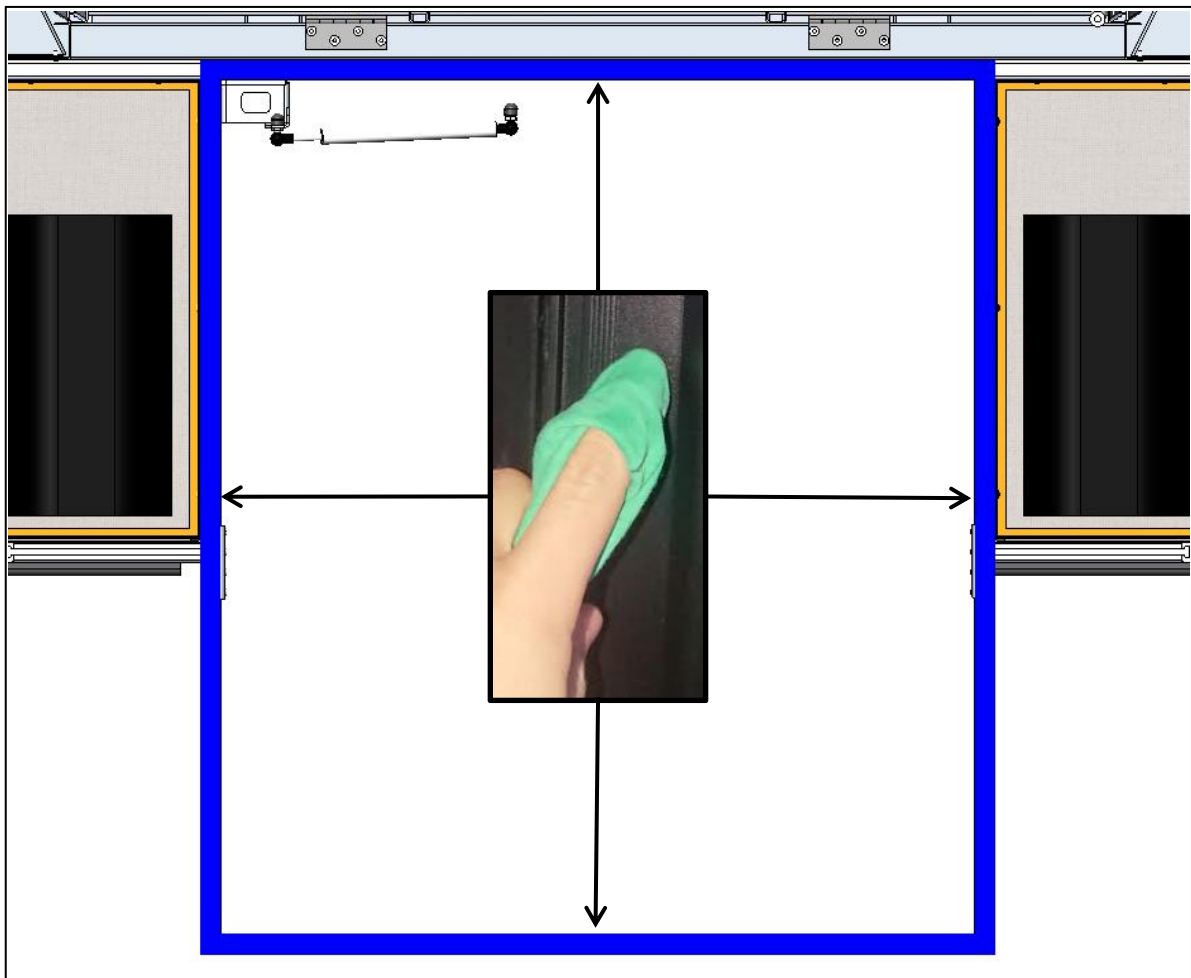

Figure 1: Cleaning / Priming Surface Indication, around Rear Door.
2.1 Cleaning: The surfaces that need to be cleaned with the 50/50 mixture of Isopropyl Alcohol and water are indicated in Figure 1, below. Use a clean cloth/rag to gently wipe the indicated surfaces (blue) with the cleaning mixture. Allow enough time for evaporation. (The surfaces should be bone dry before progressing to the next step.)